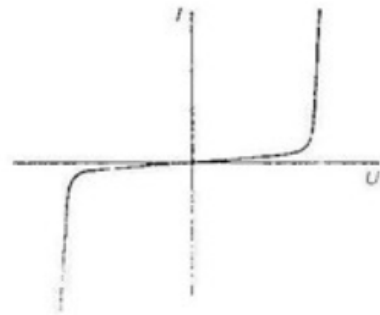

Fig.4.7 Typical current-voltage relation for voltage-dependent resistor
- ❖ There are a number of situations in which it is valuable to have resistor which offers a high resistance at low voltages and a low resistance at high voltages as is the case in the current-voltage characteristic shown in Fig. 4.7